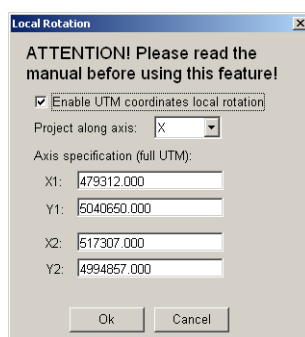

Figure 73: Rotation dialog box
To enable rotation check *Enable UTM coordinates local rotation* and enter coordinates X1, Y1 and X2, Y2 (see figure 73). *Project along axis* specifies how line between (X1,Y1) to (X2, Y2) is located after rotation: horizontally (X) or vertical (Y). It becomes new X or Y axis accordingly.